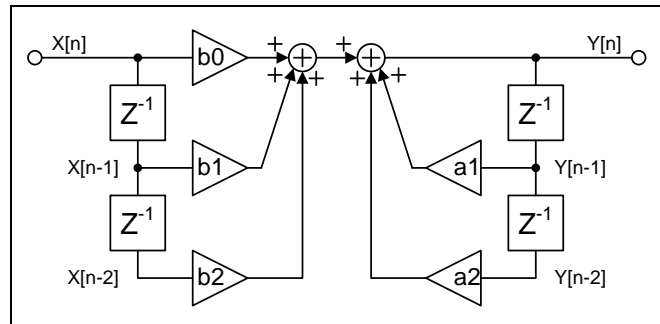

Figure 19. 2nd Order IIR Filter
13-Band EQ and 3-Band Tone(EQ) filters are connected in order from high frequency  $f_0$  or  $f_c$  to low frequency  $f_0$  or  $f_c$ . Each band is configured by 2nd order IIR filter. (Refer to Figure 19.)
IIR A and IIR B are configured by 2nd order IIR filter. (Refer to Figure 19.)